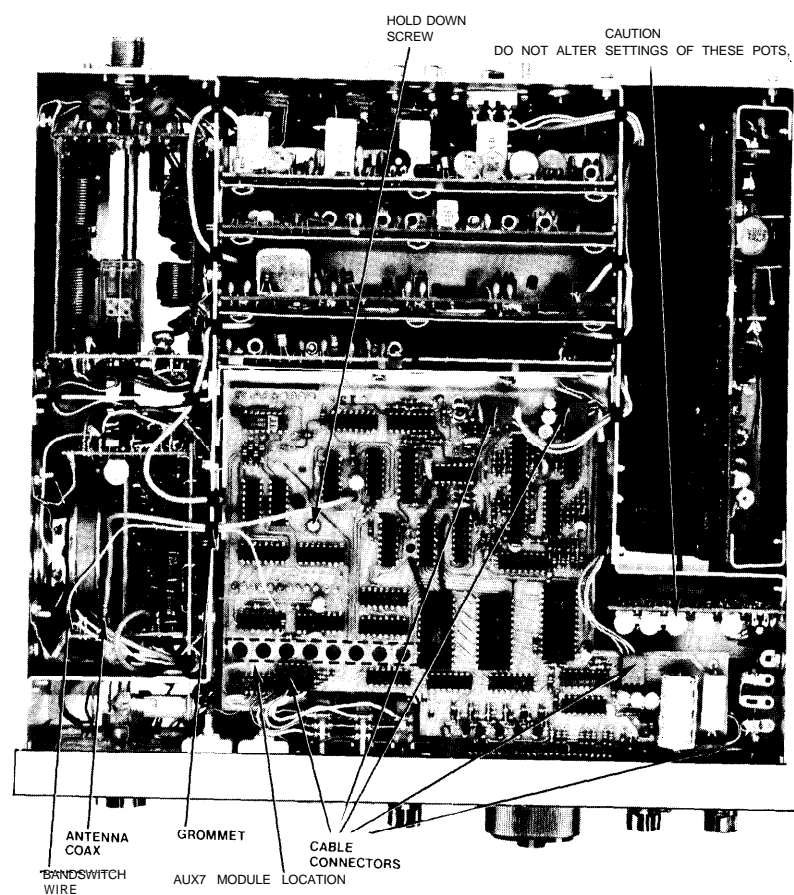

Figure 3-AUX7 Module Loca tion/Installa tion
Once the desired ranges and/or frequencies have been programmed on the AUX7, the module can be installed by the following procedure outlined below. *Refer to figure 3 for module location.*
Operation of the TR7/R7 with the AUX7 is described in the Operator's Manual (see *figure 3-1*). Programmed ranges are selected by the front panel AUX PROGRAM switch (W), and fixed operation is selected by the FIXED XMIT and FIXED RCV pushbuttons (F and G). Channel crystals may be set on frequency by selecting the proper range and fixed mode and adjusting the corresponding trimmer capacitor with a non-metallic tool (see *figure 3*).